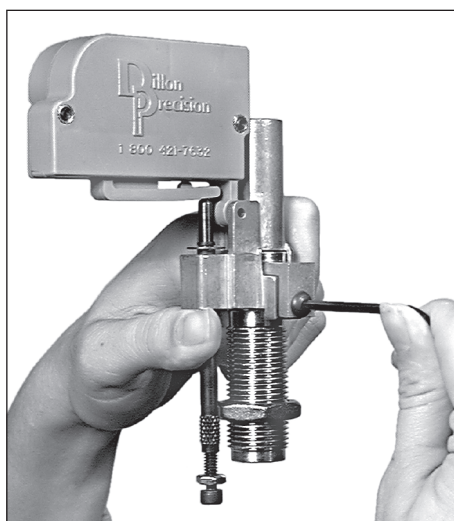

FIG 53
1. Loosen the die clamp screw FIG 53 and remove the die.